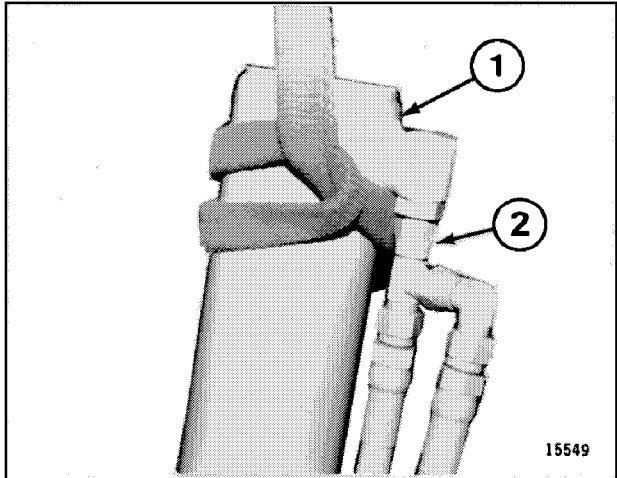

Figure 46
4. Using a suitable lifting device, sling cylinder (1, Figure 46) as shown.
5. Disconnect hose and/or fitting (2) from base end port connector. Remove connector from port, if replacement is necessary.